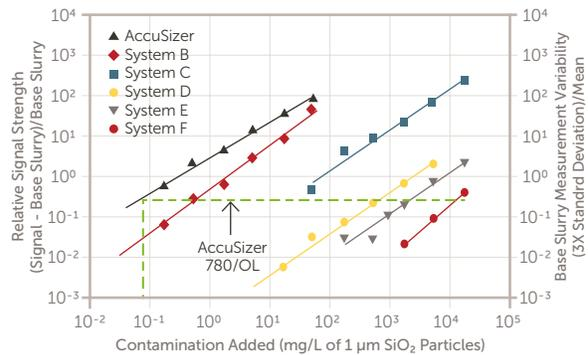

Figure 5. SiO_2 particle detection study.
A study published for the microelectronic industry¹ shows how the AccuSizer SPOS system performed vs. other techniques on the ability to detect a spike of 1 μm SiO_2 particles into a base silica, oxide CMP slurry. The AccuSizer system perturbation detection limit result was reported to be 0.07 mg/mL while the diffraction result (C) was reported to be 100 mg/mL – a difference of 1428X (Figure 5).